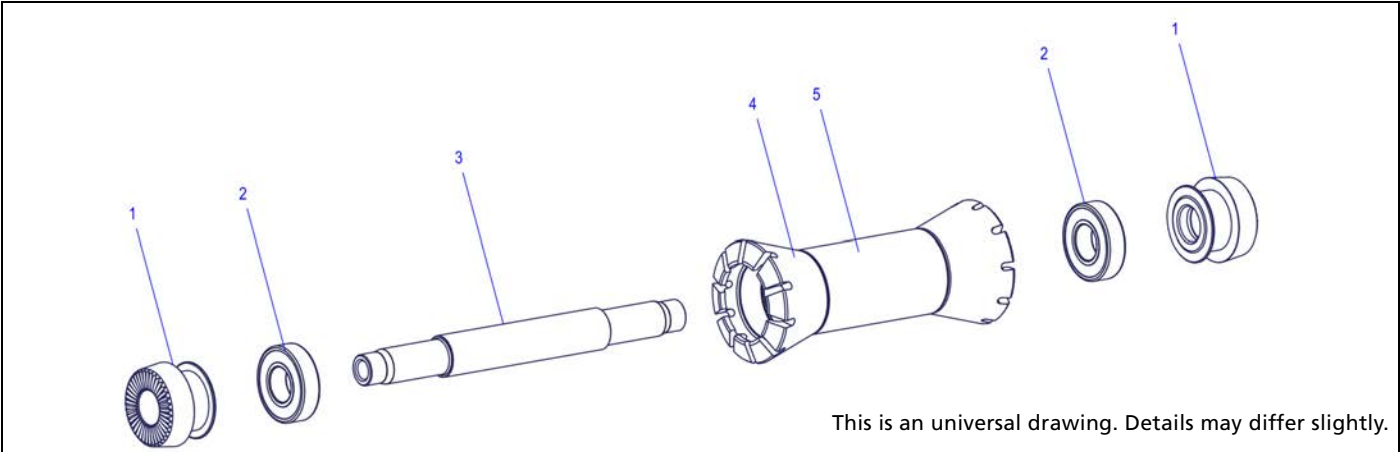

Figure 4-4: 350 QR, 540 QR front wheel hub
1. Remove the adapters (fig.4-4/1) by hand.
1. Hit the axle (fig.4-4/3) with a nylon hammer and tap out the first bearing (fig.4-4/2).
2. Pull the bearing (fig.4-4/2) off the axle (fig.4-4/3).
3. Slide the axle (fig.4-4/3) through the second bearing (fig.4-4/2).
1. Grease the bearing seats and the inner surface of the hub shell (fig.4-4/4).
2. Slide the axle (fig.4-4/3) into the installation tool.
3. Slide the hub shell (fig.4-4/4) onto the installation tool and the axle (fig.4-4/3).
5. Put the second installation tool onto the bearing (fig.4-4/2) and tap in the bearing using a nylon hammer.
1. Grease the bearings and the inner surface of both adapters (fig.4-4/1).
2. Put the adapters (fig.4-4/1) onto the hub by hand.